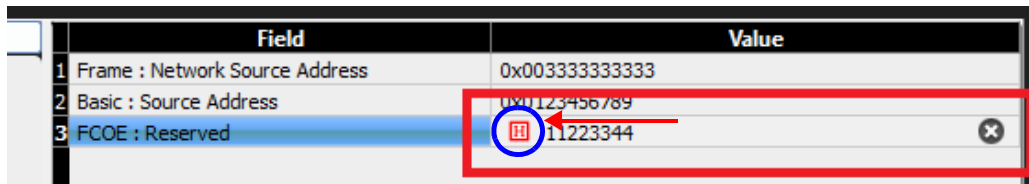

Figure 7.16: Hexadecimal Button
- A red “H” appears at the left of the value cell (Figure 7.16). This shows, by default, that the value is to be in hexadecimal format.